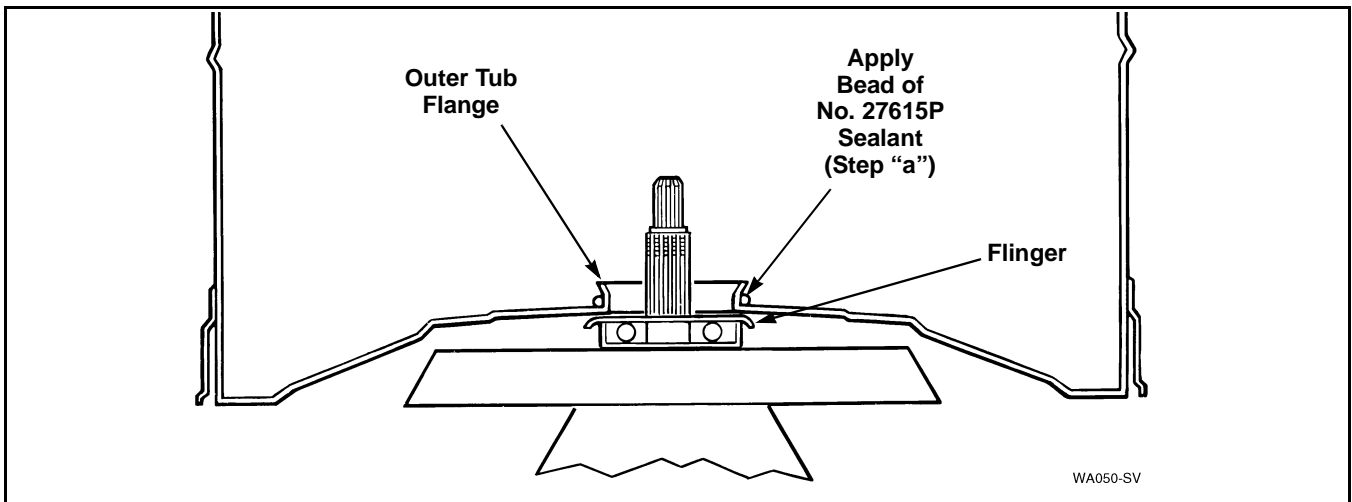

Figure 38
- a. Apply a small amount of No. 27615P Sealant, (supplied in kit) around the outer surface of the tub flange. Refer to *Figure 38*.
**IMPORTANT: DO NOT allow sealant to get in contact with the flinger as this could prevent the flinger from keeping moisture out of the upper bearing. Refer to Figure 38.**